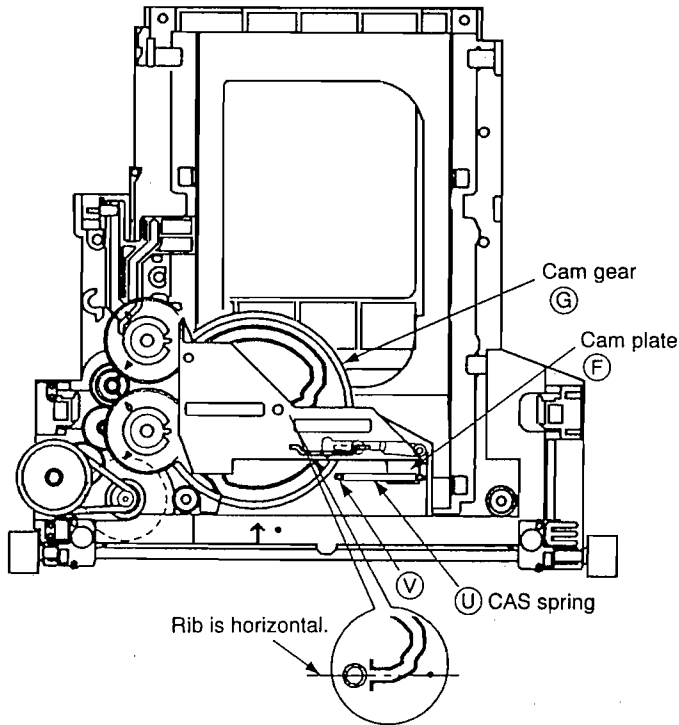

Fig. 1-10 Attach the cam plate
3. Turn the cam gear ㉔ in a counterclockwise direction until the start portion of the cam gear becomes horizontal (Fig. 1-10).
4. Attach the CAS spring ㉕ (Fig. 1-10) to the cam plate ㉖ and hook the ㉗ side of the CAS spring to the hook of the mechanism base, and move the boss on the bottom center of the cam plate to the left side of the cam gear horizontal portion, attach the cam plate.